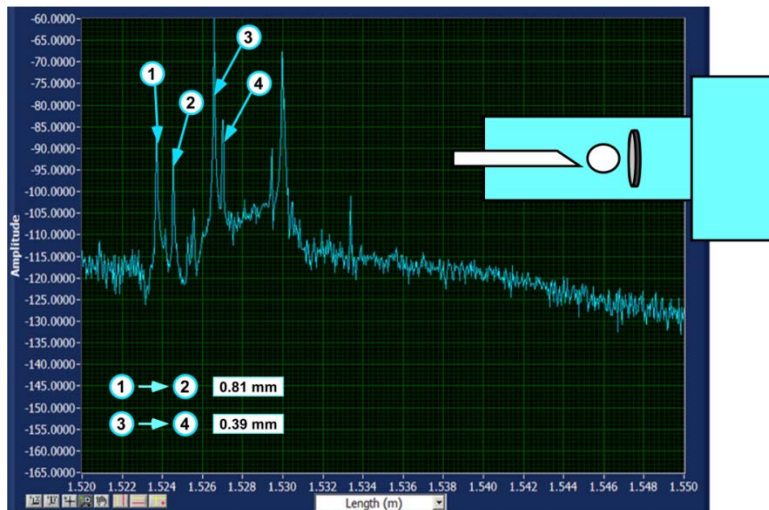

Figure 4. A close-up view of the electro-optical component attached to the fiber optic jumper
*Figure 4* is a close-up of the peak at ~1.5 meters. On closer inspection, we see a series of peaks that correspond to reflective events within the electro-optical component. In this illustration, peak distances as small as 0.390 mm were resolved. The system can potentially resolve peaks as close as 40 microns.